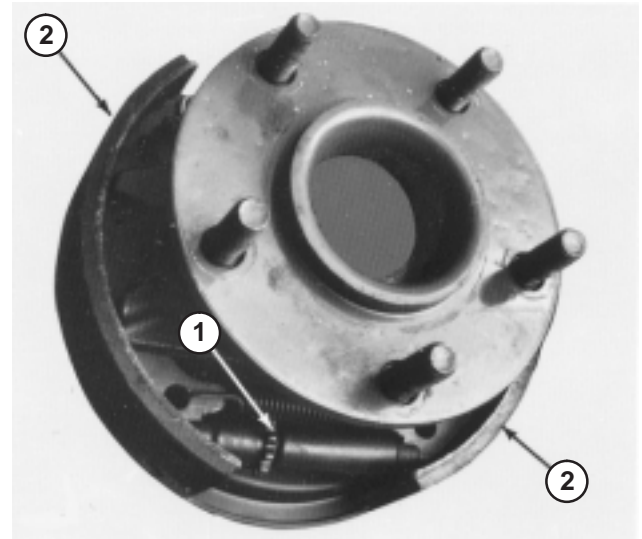

Figure 48
6. Using a brake adjusting tool or screwdriver, rotate star nut down until brake drum locks because of outward pressure of brake shoes (Fig. 48).